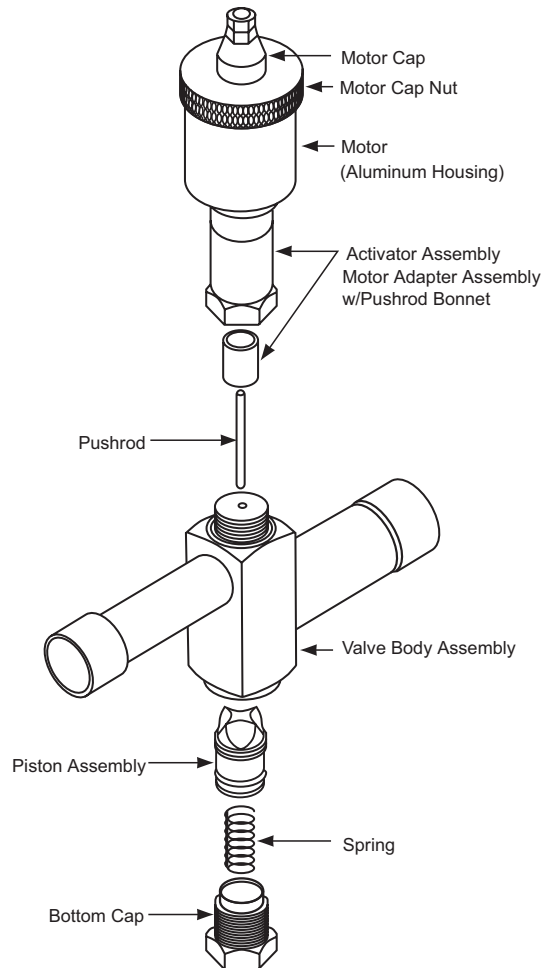

Figure 18 SEO Electronic Expansion Valve Exploded View
3. Refer to the exploded view in Figure 18 while performing the remaining instructions.
Refer to Figure 18. The pushrod is under spring pressure and will be accelerated out of the top or bottom of the valve body assembly if the activator assembly or bottom cap is removed. When unscrewing either the activator assembly or bottom cap, make sure these assemblies are kept in line with the valve body and moved away from the valve body very slowly in the vertical direction, until you feel the pressure is relieved from the pushrod. At this time hold the pushrod with one hand and then move the activator or bottom cap away from the valve body. * Do not try to remove either the activator assembly or bottom cap under any system pressure. System pressure must be at 0 psig on both sides of the valve before attempting any disassembly of this valve. Failure to slowly relieve spring pressure may result in minor to moderate injury.